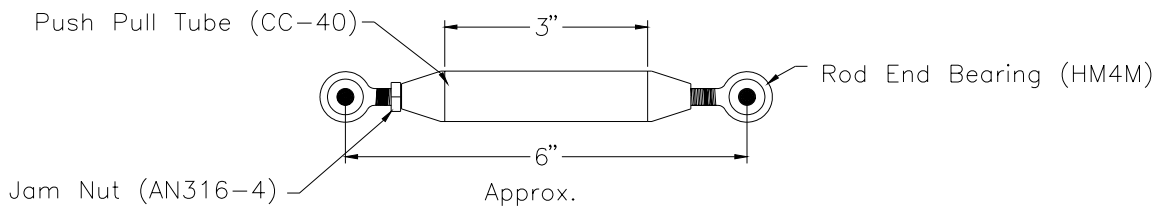

Figure 20.5.1
1) Make a push-pull tube (CC-40) from 3/4" x .035 tubing (CC-51). Adjust to length by turning the rod end bearings then lock in place with a jam nut (AN316-4) on the outboard end only. Figure 20.5.1